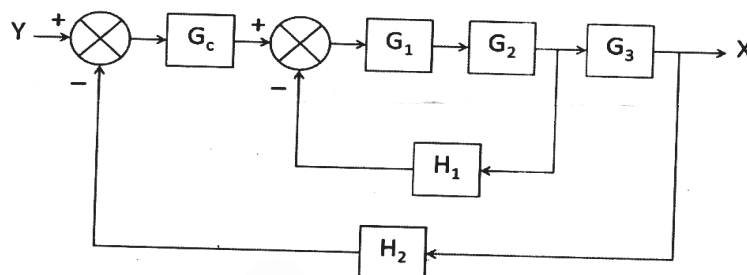

Figure 1
- Q4)** a) Reduce the block diagram in Figure 1 and determine the transfer function: X/Y . [8]